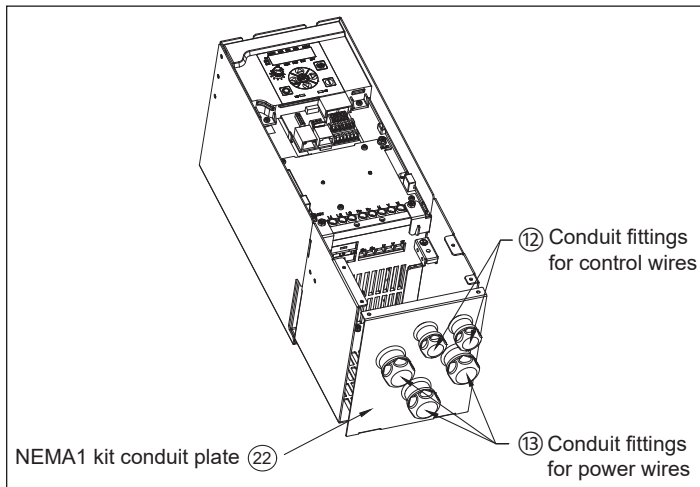

Figure 18. Mounting the conduit fittings.
Mount the conduit fittings (12) (13) (prepared by customer) on NEMA 1 kit conduit plate (22) (see Figure 18).